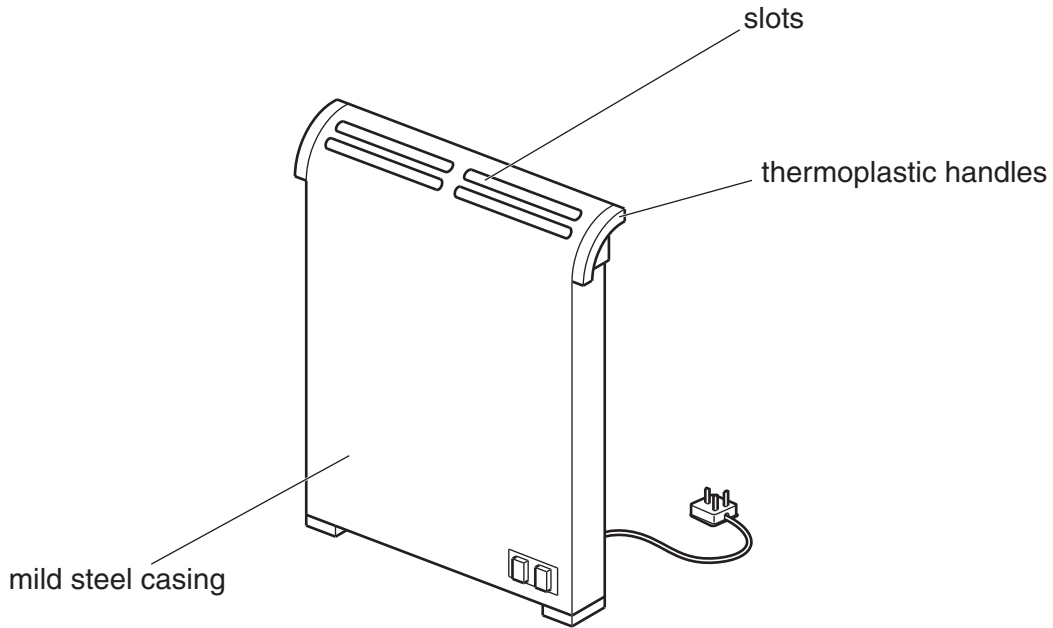

Fig. 4
- 5 Fig. 4 shows a slimline electric heater. The heater has been designed to be free-standing or wall mounted.
(c) The heater shown in Fig. 4 is found to be unstable when free-standing.